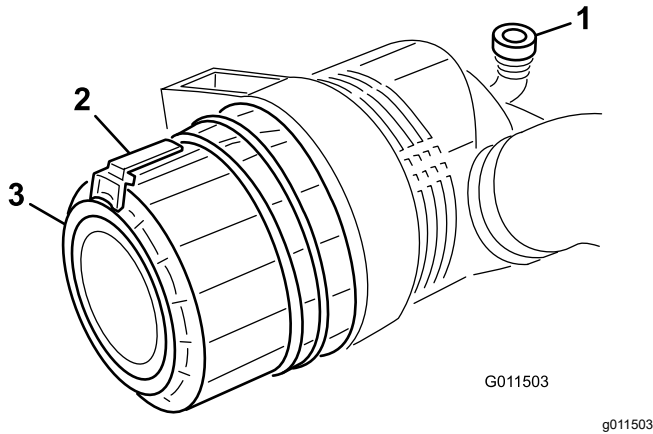

Figure 49
1. Pull the latch outward and rotate the air cleaner cover counterclockwise (Figure 49).